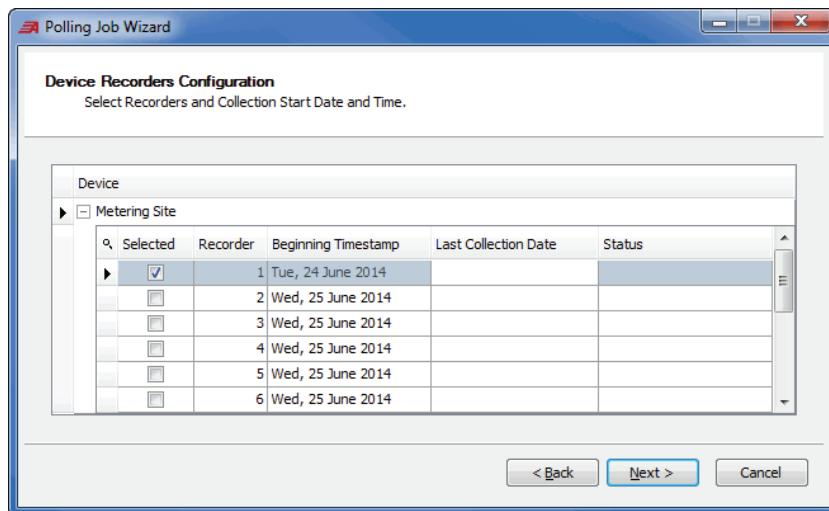

Figure 188 Device Recorders Configuration
- Step 6. Select (+) to expand the recorder view for the **Metering Site** device. Select the box under **Selected** for Recorder 1, set **Beginning Timestamp** to the previous day's date, and select **Next**. *Figure 188* shows the **Device Recorders Configuration** window.